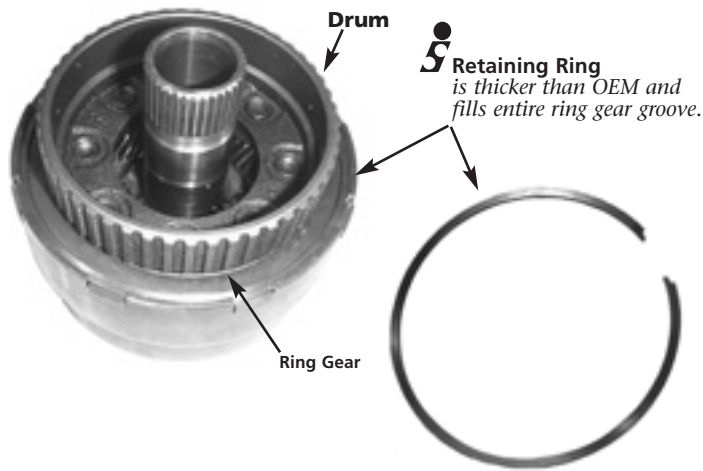

Figure 3
4. The Sonnax pump shaft **96855-02K** has a unique design to increase cooler flow and minimize debris-related restrictions. The inner tube is not round in cross section, but oval. When reinstalling a Sonnax oval inner tube, **96855-03** (patent pending), it is critical to have the flat sides of the inner tube facing the pump shaft cross holes (Figure 3).